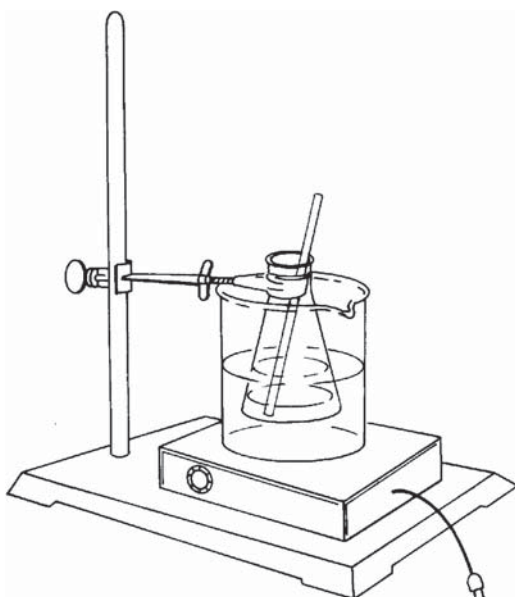

Figure 30.1
3. Mix the reagents and then place the flask in the boiling-water bath; heat for 30 min. (Figure 30.1). The solid will completely dissolve. Swirl the solution occasionally.